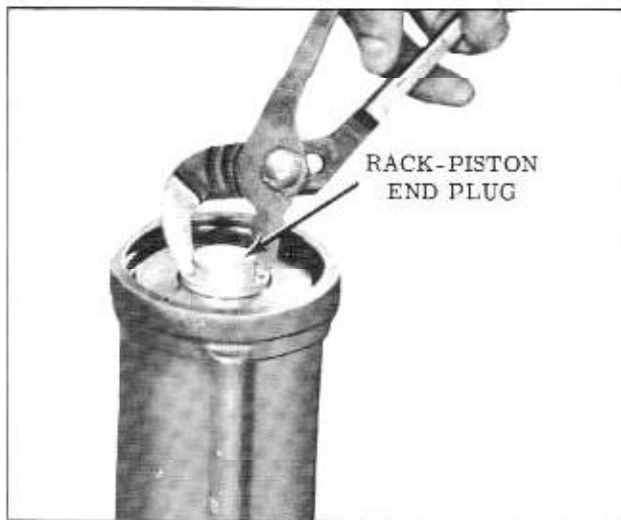

Fig. 4-74 Removing End Plug
3. Remove the rack-piston plug retaining ring using internal pliers, then pull the plug from rack-piston as shown in Fig. 4-74. Remove "O" ring from plug and discard.